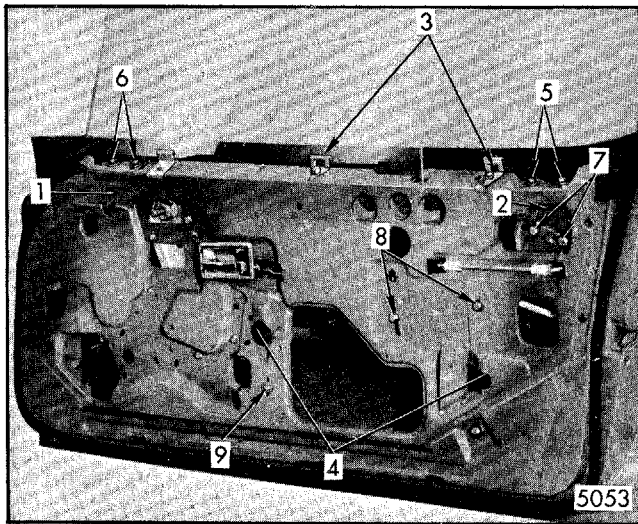
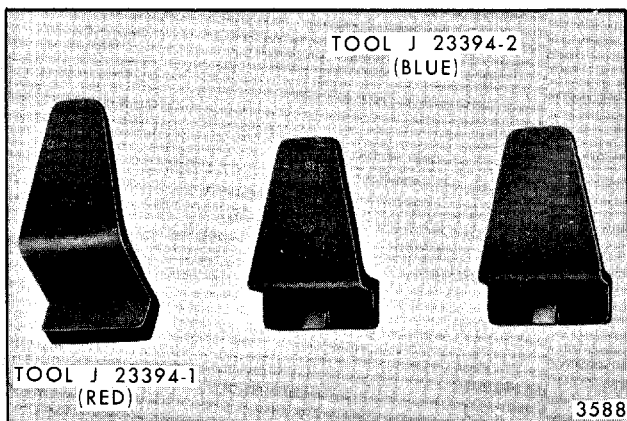

Fig. 5-124-Window Hardware Attachments - "F" Styles
Fig. 5-125-Glass Alignment Gauge Blocks - Tool J-23394 or Equivalent (Set of Three Blocks) - "F" Styles
In the following steps, the numbers in quotes refer to items in Figure 5-124. After making any adjustments, torque all loosened attachments to 72 in-lb.
The following procedure outlines the use of gauge blocks J- 23394-1 and J-23394-2 (2 required) or equivalent (Fig. 5-125) to consistently align the door glass. In the following steps, numbers in quotes refer to items in Figure 5-124 unless otherwise specified.
2. Remove front and rear up-travel stops ("1" and "2", Fig. 5-124).
3. Loosen front and rear belt trim support retainers ("3", Fig. 5-124).
4. With window in three-quarter-down position, remove lower sash channel cam to glass attaching nuts ("4", Fig. 5-124). Remove window by lifting straight up and aligning rollers with notches provided in the door inner panel.